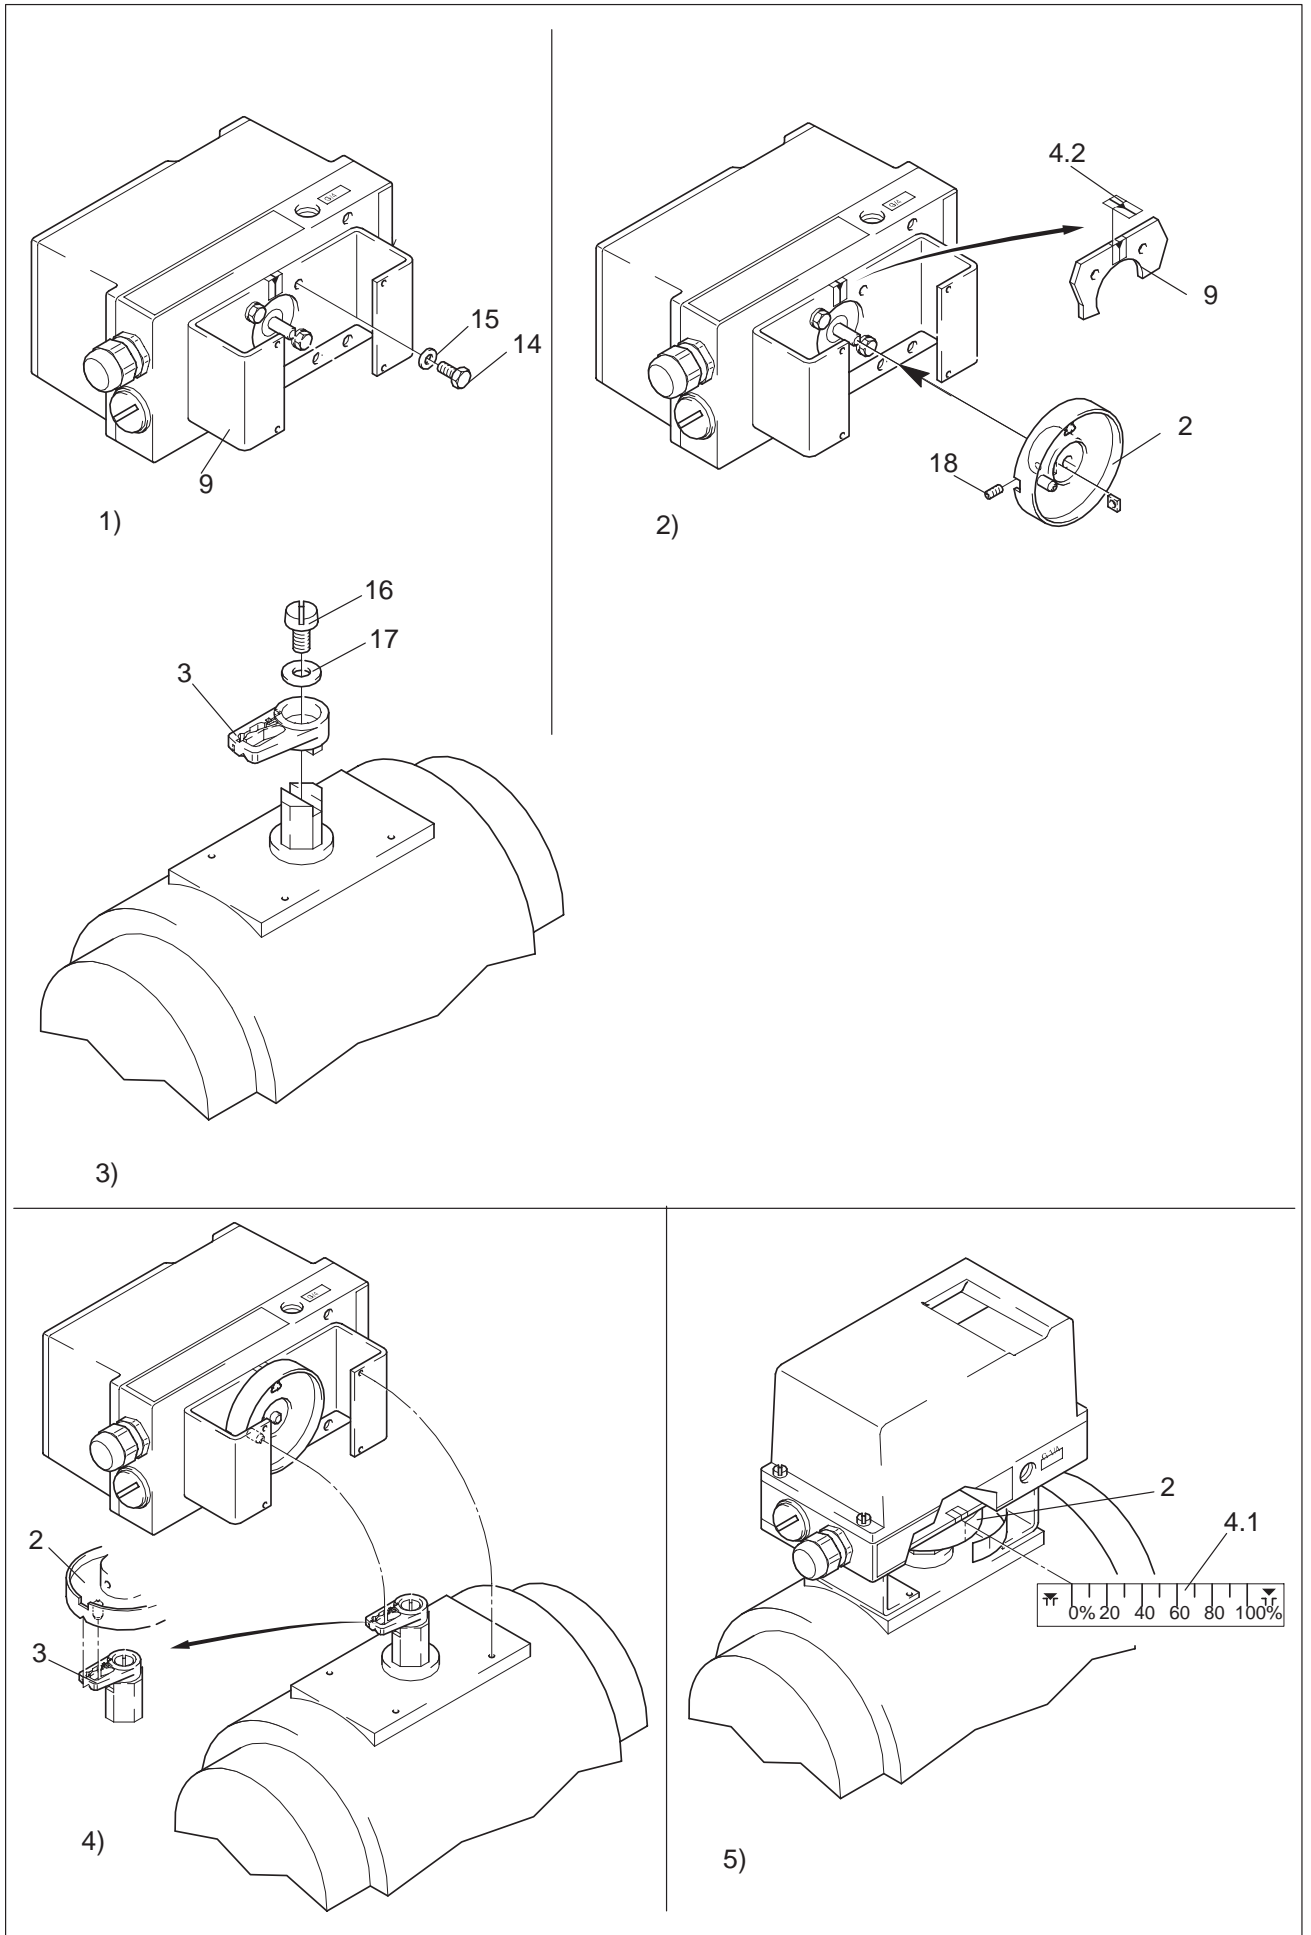

Fig. 2 Assembly sequence (rotary actuator)
The following are included in the *delivery of the extension kit* "Rotary actuator" (see Fig. 2 for item Nos.):
3.3.1 Assembly Sequence (see Fig. 2)